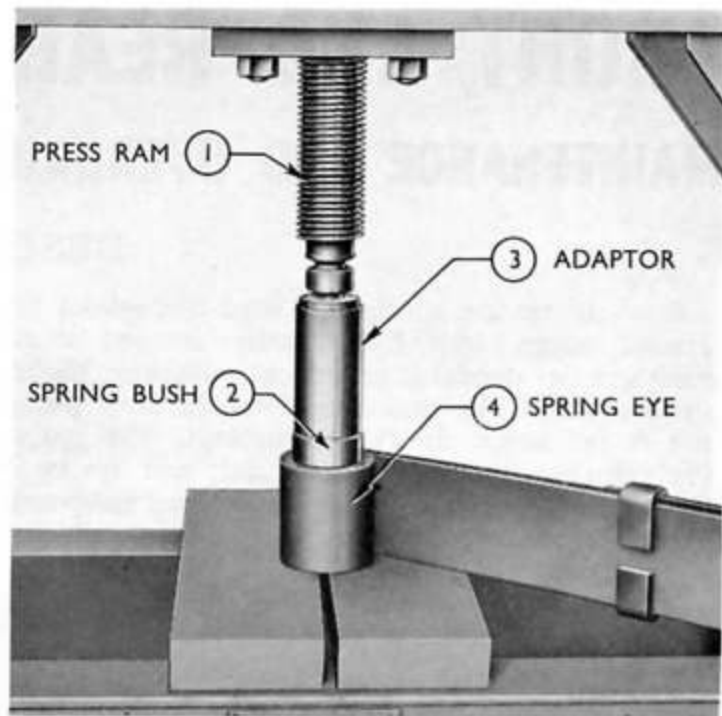

Fig. 2
5. **Fit a new rubber bush** to the front eye of the spring, using adaptor No. C.5035/b, (see Fig. 2).